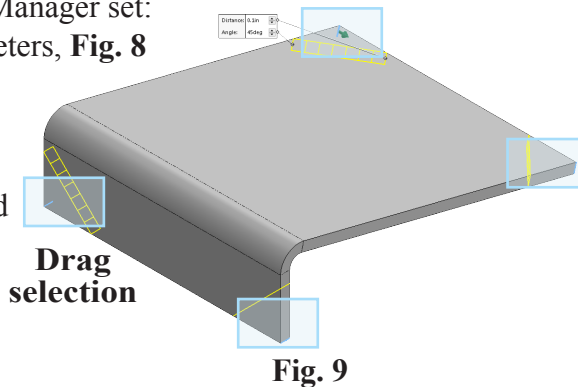

Fig. 9
- drag a selection around each corner to select the corner edge, **Fig. 9**